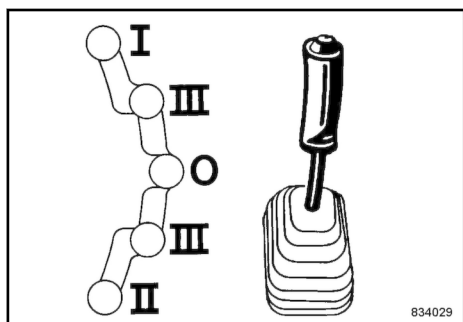

Fig. 111
2. Shift the travel lever to position "0" ↪ Fig. 111.